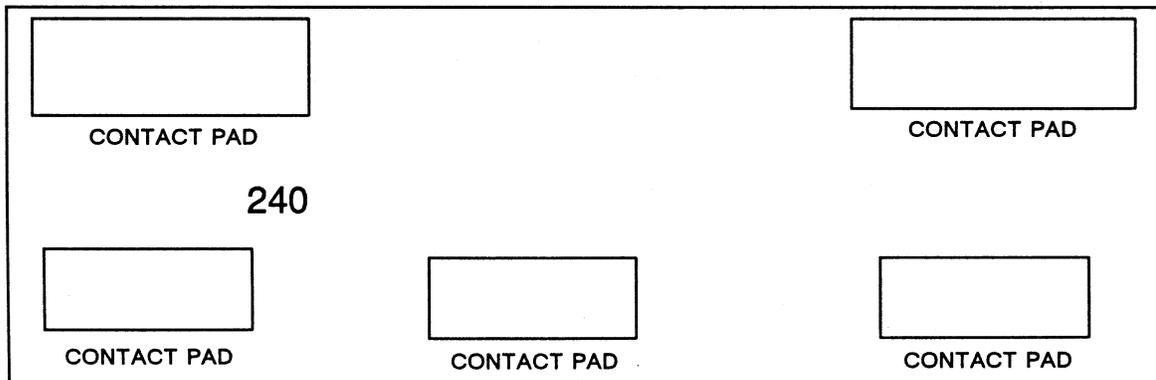

Figure 2-5. Model 30M 240 VAC Voltage Selection through PCB
2. For 240 VAC operation keep this side of the PCB up and rotate it 180 degrees so that the legend 240 is on the left side and right-side up. See Figure 2-5.